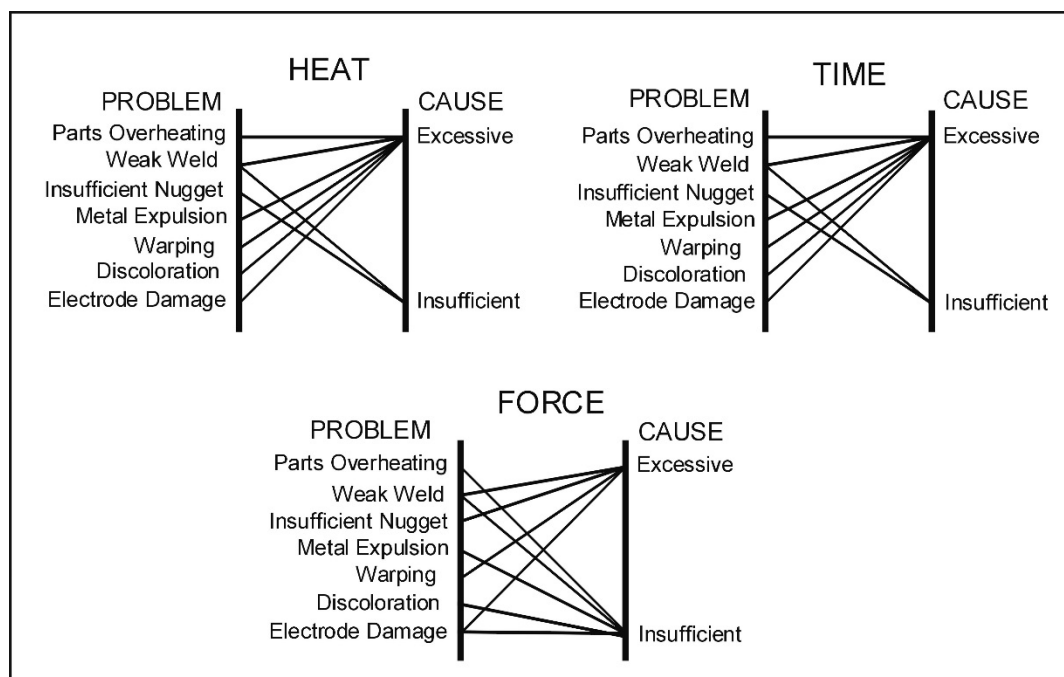

Figure 5-1. Effects of Excessive or Insufficient Heat, Time and Pressure
The effects of excessive or insufficient heat, time and pressure on a weld are illustrated in figure 5-1. You should consider the interaction between these basic welding parameters when developing a weld schedule.
2. Set the force adjustment knob on the weld head to set the firing force. Start at a moderate force setting, 3 on an AMADA WELD TECH Weld Head. Figure 5-1 illustrates the effect of electrode force on the work piece.
Electrode sticking includes burning, sparking, and "blown welds." These problems indicate that either the %ENERGY is too high or the electrode force is too low. Refer to figure 5-1.